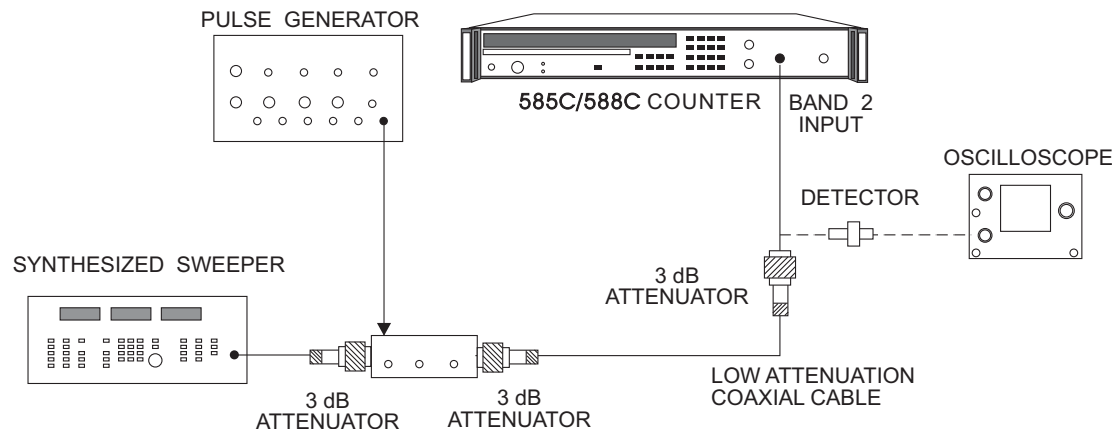

Figure 6-11. Band 2 Distortion Error Test Setup
1. Connect the equipment as shown in Figure 6-11. The 3 dB attenuators should be at the IN and OUT ports of the pulse modulator and at the input to the counter. Turn the equipment on.